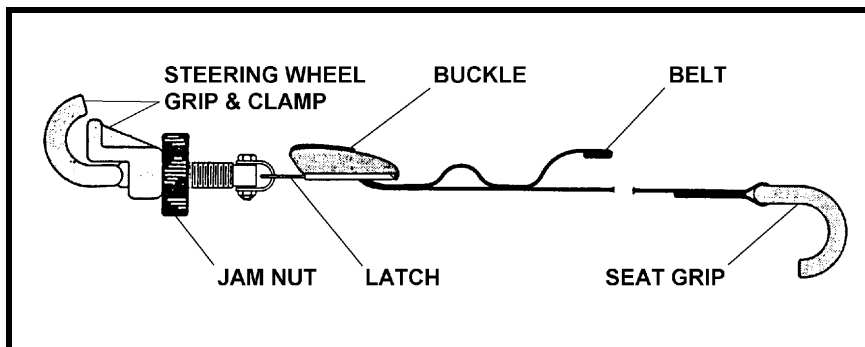

FIGURE 4B.1
3. Insert latch of steering wheel lock into its buckle. Make sure it locks in place. See Figure 4B.1.